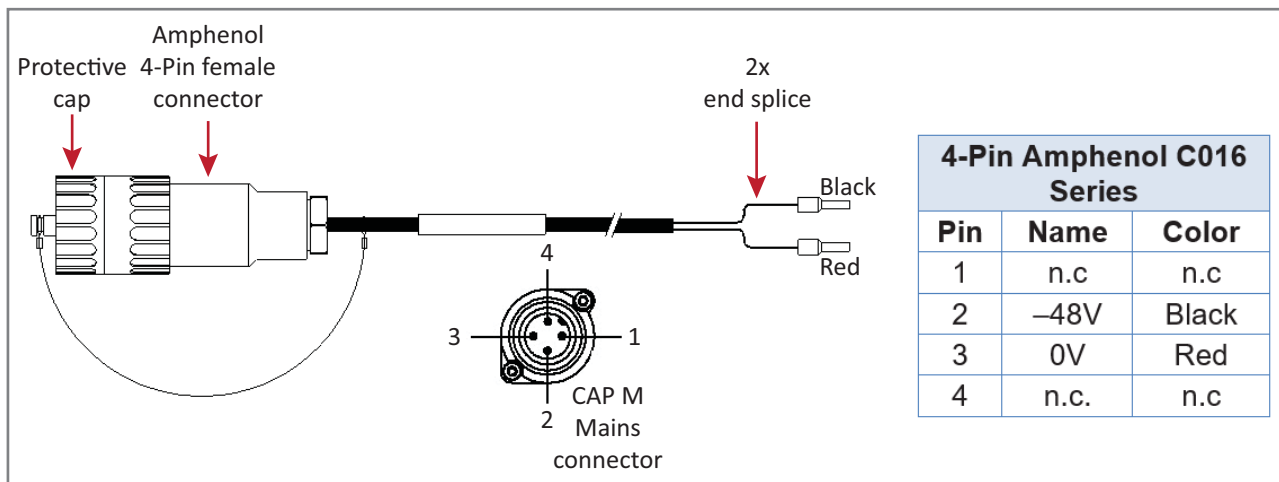

Figure 11. CAP M DC Power Cable
The standard CAP M DC power cable is a 3.2 m (10.5 ft) 13 AWG cable with a 4-pin Amphenol C016 series plug on one end to connect to the CAP M Mains connector. The other end of the cable is unterminated with 2 end splices to connect to the -48 Vdc power source. The standard DC power cable is shown in Figure 11.
- Figure 11 on page 58 for the DC power cable.